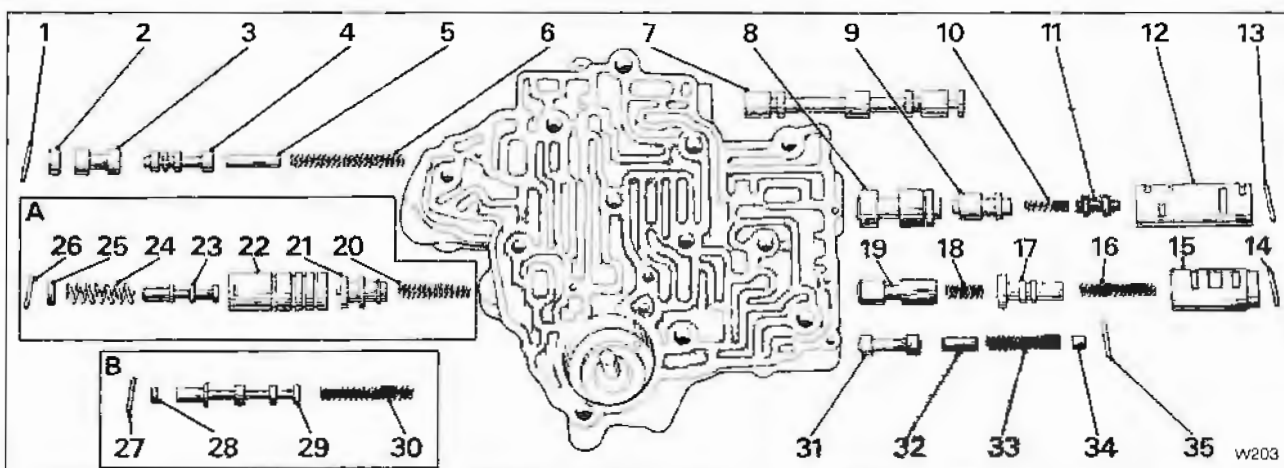

Fig. T13-2 Control valve unit
1. Hold the control valve unit with the cored passages uppermost and the accumulator piston bore to the front, as shown in figure T13-2.
During assembly reference should be made to figure T13-2